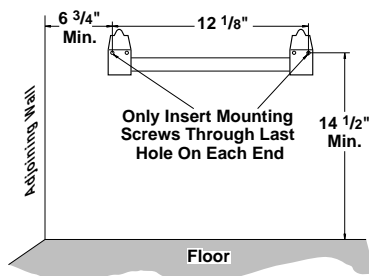

Figure 8 - Mounting Bracket Clearances
**WARNING:** Maintain minimum clearances shown in Figure 8. If you can, provide greater clearances from floor and joining wall.
2. Mark screw locations on wall (see Figure 8).